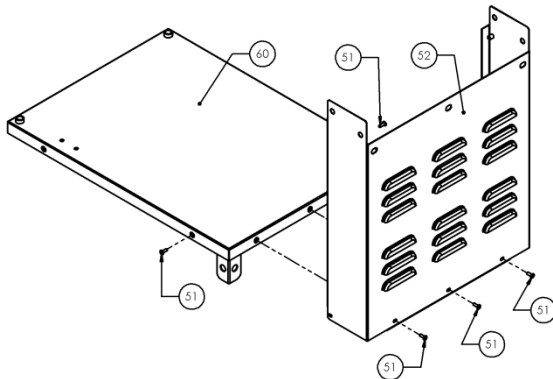

Figure 1
- 1) Insert the right panel assembly (52) onto the bottom pan assembly (60) flush to the sides and bottom. Secure using 5 8-32 screws (51). See Figure 1.